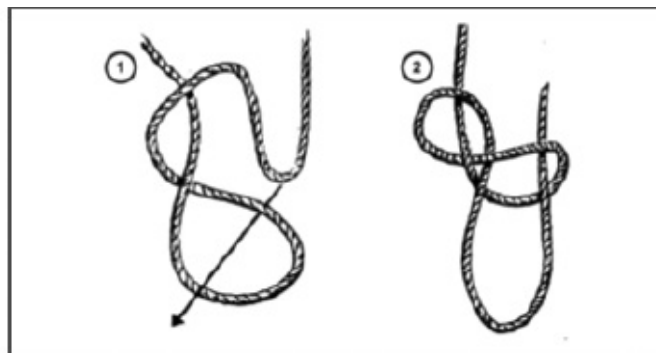

Figure 5-12. Figure eight slip knot
- h. **Figure Eight Slip Knot.** The Figure Eight slip knot is used to form an adjustable bight in the middle of a rope. Knot is in the shape of a Figure Eight. Both ropes of the bight pass through the same loop of the Figure Eight. The bight is adjustable by means of a sliding section (Figure 5-12).